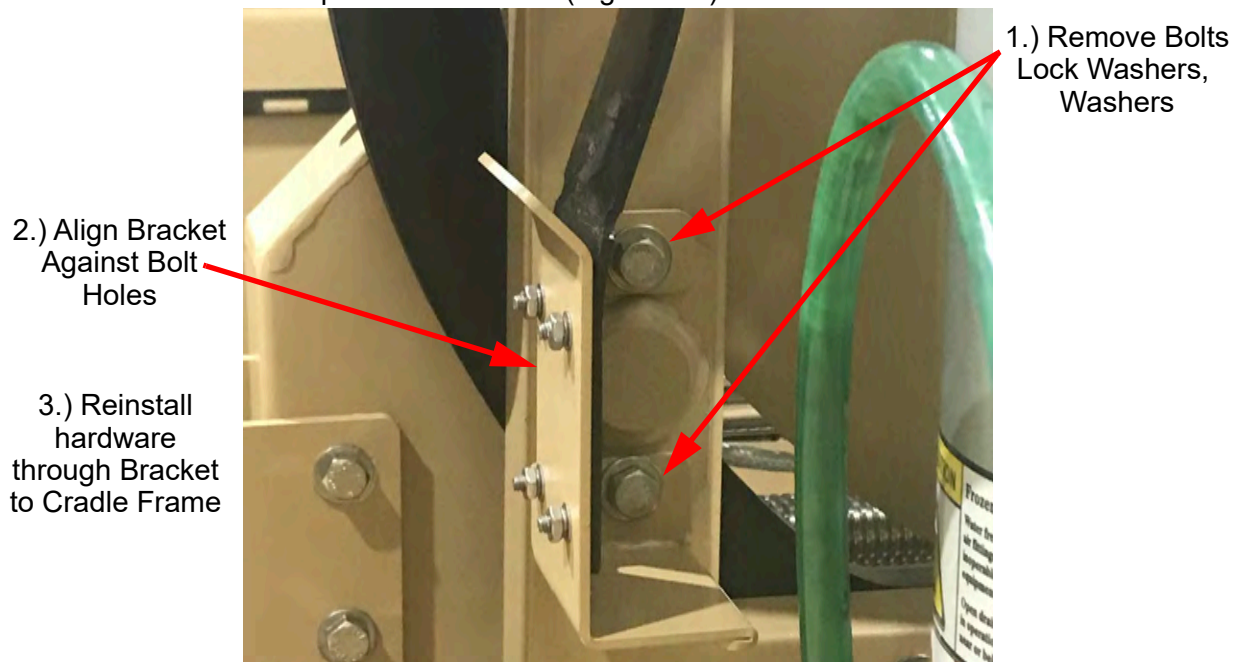

Figure 5-6 Install 1 Bracket of Cable Management Strip to Cradle Frame
- a. Remove the 2 bolts from the left side of the cradle frame (Figure 5-6).
- b. Align one bracket of the Cable Management Strip against where the bolt holes are. Reinstall the bolts through the bracket back into the cradle frame. Apply Loctite 243 to hardware and torque to 15.8-20 ft-lb (Figure 5-6).